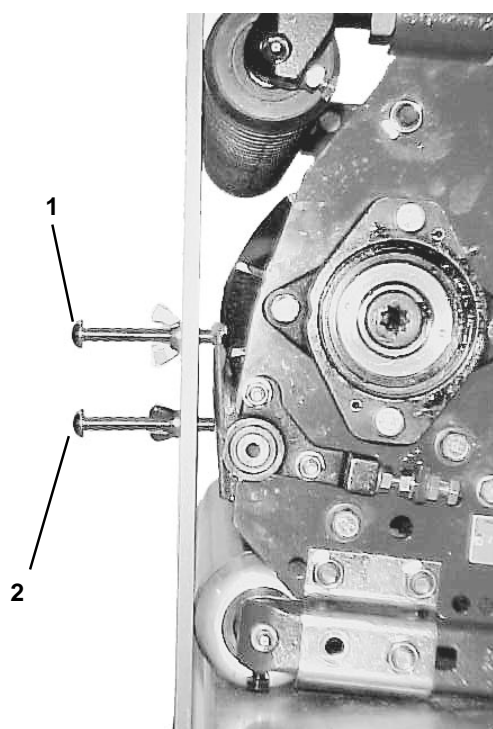

Figure 18
4. Switch first screw on the gauge bar so both screw heads are pointed in the same direction (Fig. 18).
5. Place the gauge bar on the bedknife so both screws contact the bedknife while the gauge bar contacts the front and rear rollers (Fig. 18).